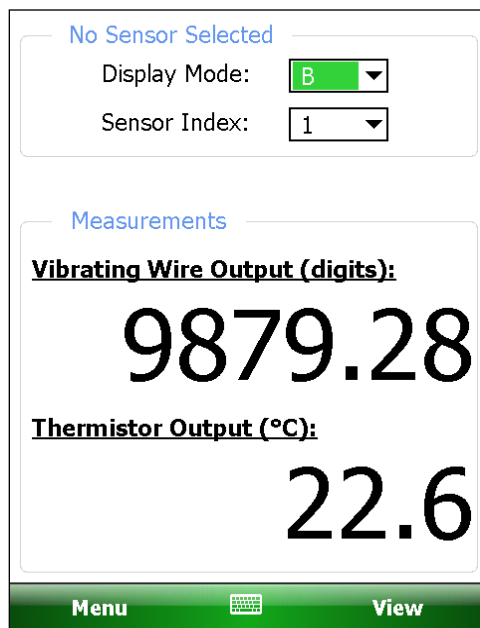
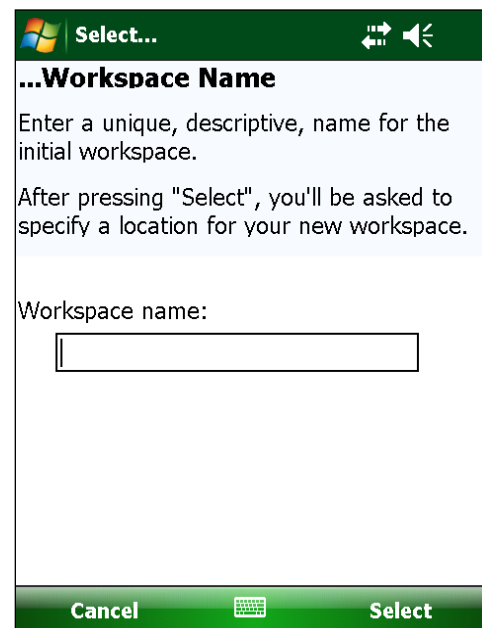

Figure 4 - Live Readings – Raw Readings
Figure 5 - Select Workspace Name
- 2) After a few seconds the Live Readings Window will be displayed (Figure 4). If the window shown in Figure 5 is displayed instead of the Live Readings Window, please refer to Section 2.5, “Starting the Vibrating Wire Readout the first time”. If the Live Readings Window is displayed but no Thermistor or Vibrating Wire output is shown, please refer to Appendix A, “GK-405 Connections”.